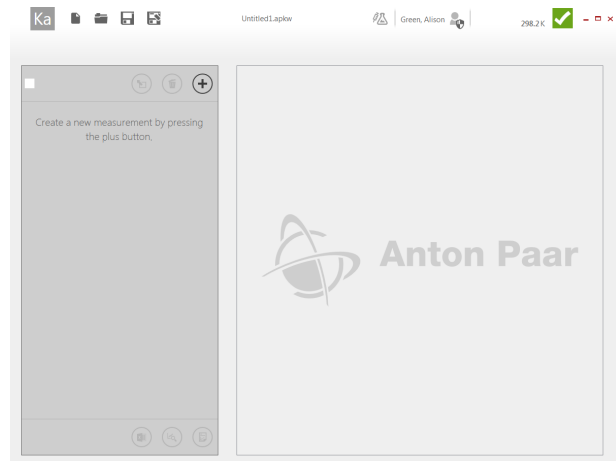
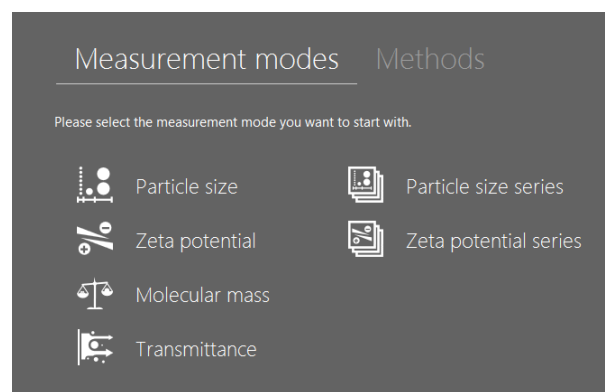

Fig. 6-5: Kalliope start-up screen
Fig. 6-8: Selection of measurement mode
7. Click Activate, then click Exit and restart the software. The display should now appear as in Fig. 6-5. If the instrument is connected to the computer and the software, a small green tick will appear in the top right corner.
Note that Kalliope needs to be restarted in order to apply new selections. Click again on the **Ka** icon to close the window and return to the measurement window, above (Fig. 6-5).
On the start-up screen (Fig. 6-5), click on the **+** icon to select a new measurement. The measurement options are displayed as follows (Fig. 6-8), with measurement modes on the left, and measurement series options on the right.
On the start-up screen (Fig. 6-5), click on the  icon to select a new measurement. Select  Particle size. Input parameters can be entered on the left-hand side of the display, as follows (see Fig. 7-4). An explanation of the input parameters can be found in Table 7-2.